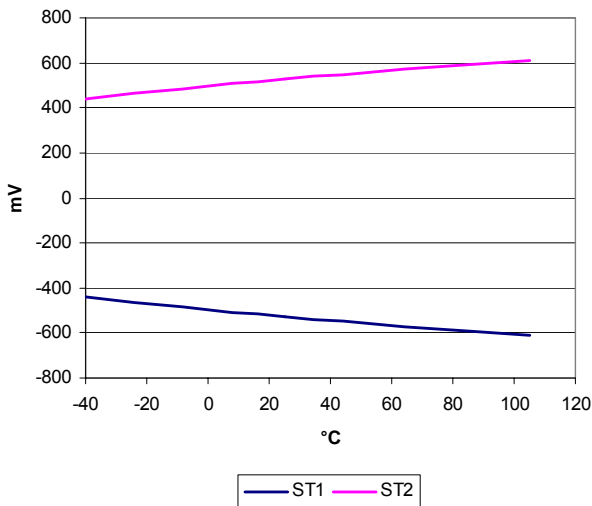

Figure 10. Typical Self Test Change Over Temperature
-0.5 V and ST2 will cause an opposite change of +0.5 V. The self-test response follows the viscosity temperature dependence of the package atmosphere, approximately 0.25%/°C, as shown in Figure 10.